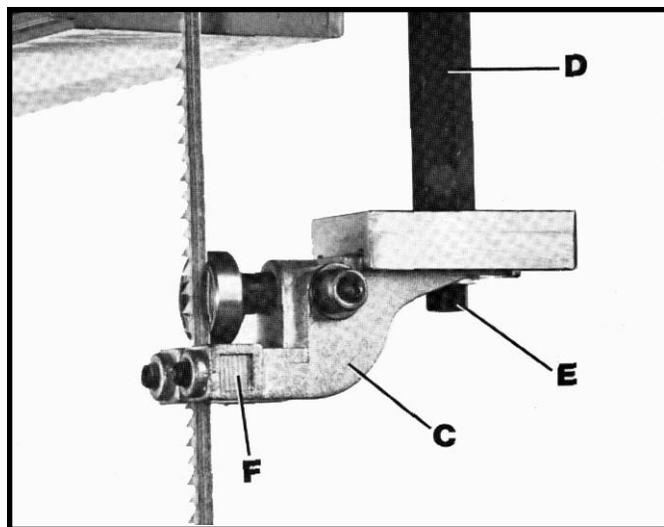

Fig. 22
3. The upper guide bracket (C) Fig. 22, is assembled to the lower end of the guide post (D) by screw (E). Loosen screw (E) and move the guide bracket (C) in or out until the front edge of the guides (F) are just behind the blade "gullets" (bottom of saw teeth) while making sure the guides are flat with the blade then tighten screw (E).